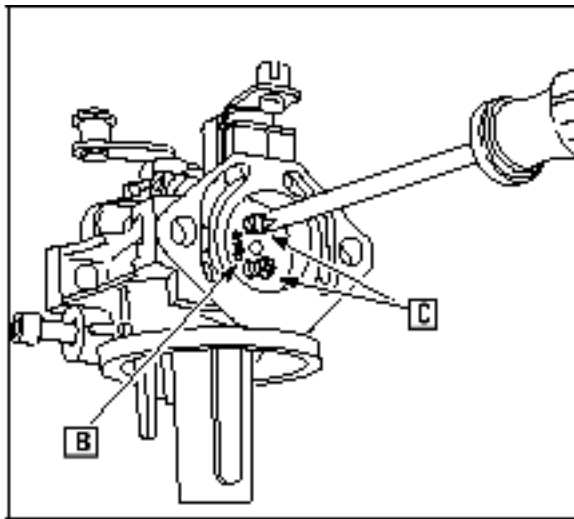

Fig. 82
Lay the throttle plate (A) on the shaft with the stamped numbers (B) to the left. Install two screws ([C] Fig. 82).